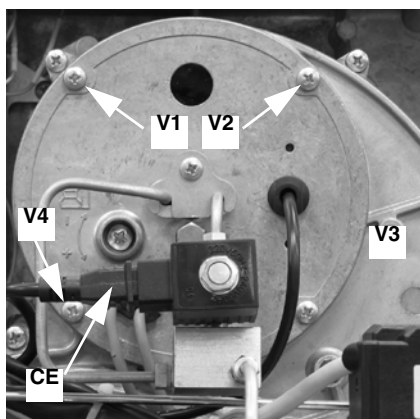

Fig. 41
- Remove the 4 screws **V1** - **V4** shown in Fig. 41.
- Reassemble the combustion head and tighten the 4 screws **V1 - V4** (Fig. 41).